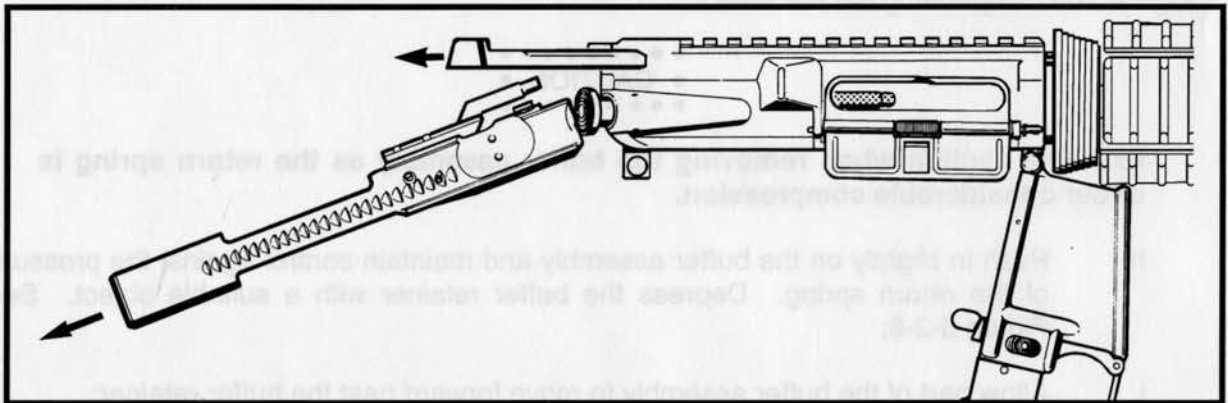

Figure 3-2-5 Removing the Bolt Carrier Group
- c. Pull the cocking handle rearward approximately 9 centimetres (3 inches) to withdraw the bolt carrier group. See Figure 3-2-5;